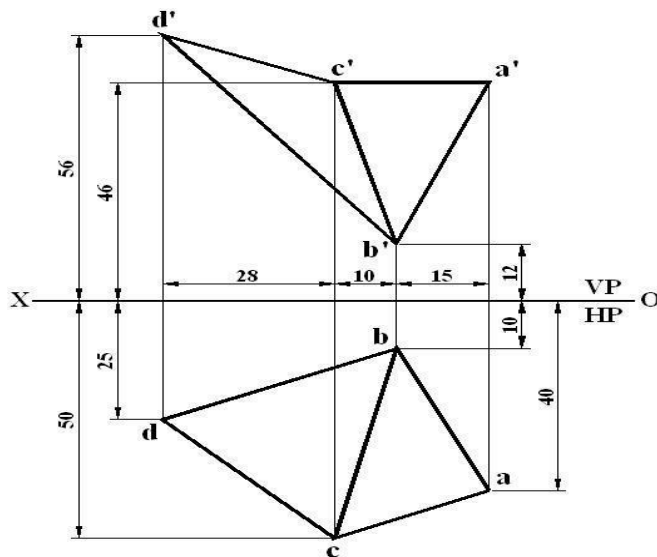

Figure P4.9
9. Determine the true size of the angle formed by the planes **ABC** and **BCD** shown in Figure P4.9.